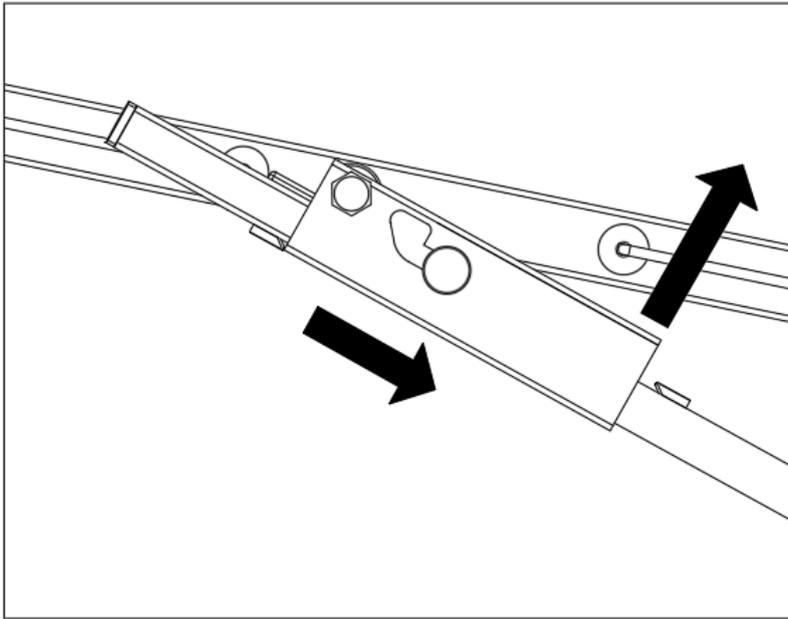

Fig 12. Catch rotating allowing catch slider to drop.
- The catch will grab onto the lower protrusion and rotate upwards allowing the catch slider to slide down the slot. (Fig 12)